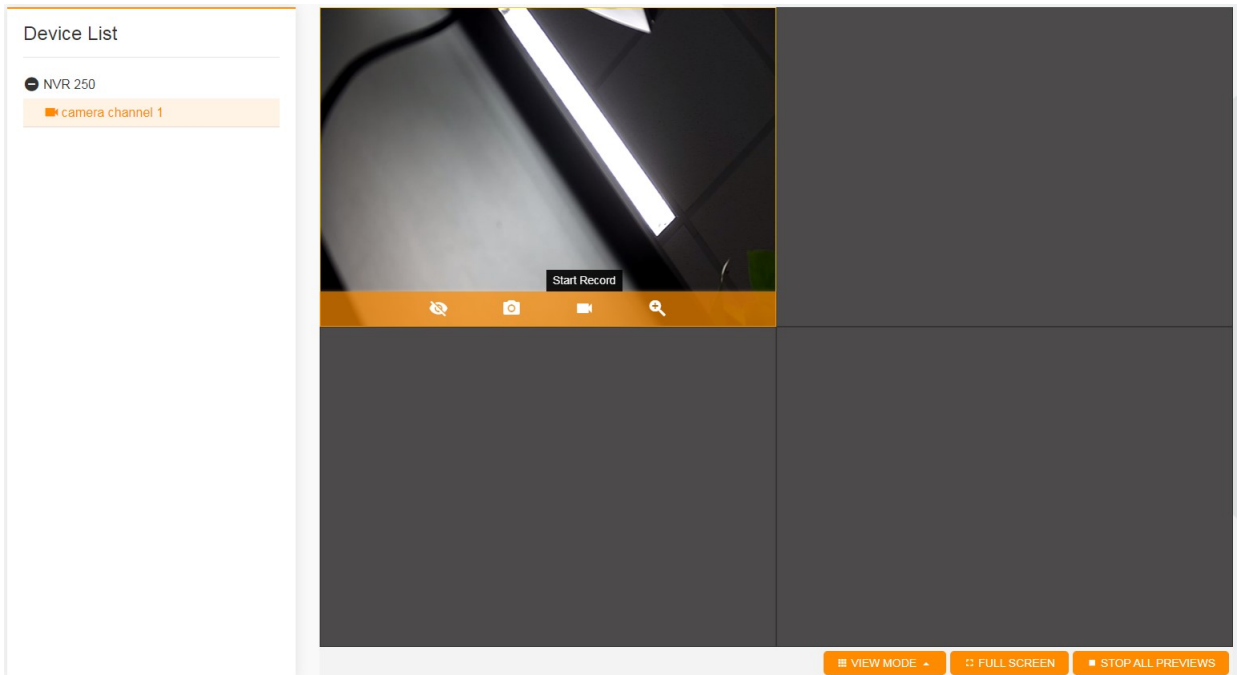

Figure 14-18 Record
1. Select the corresponding small window, hover the cursor over the bottom of the window, and click the **Start Record** button, as shown in Figure 14-18.